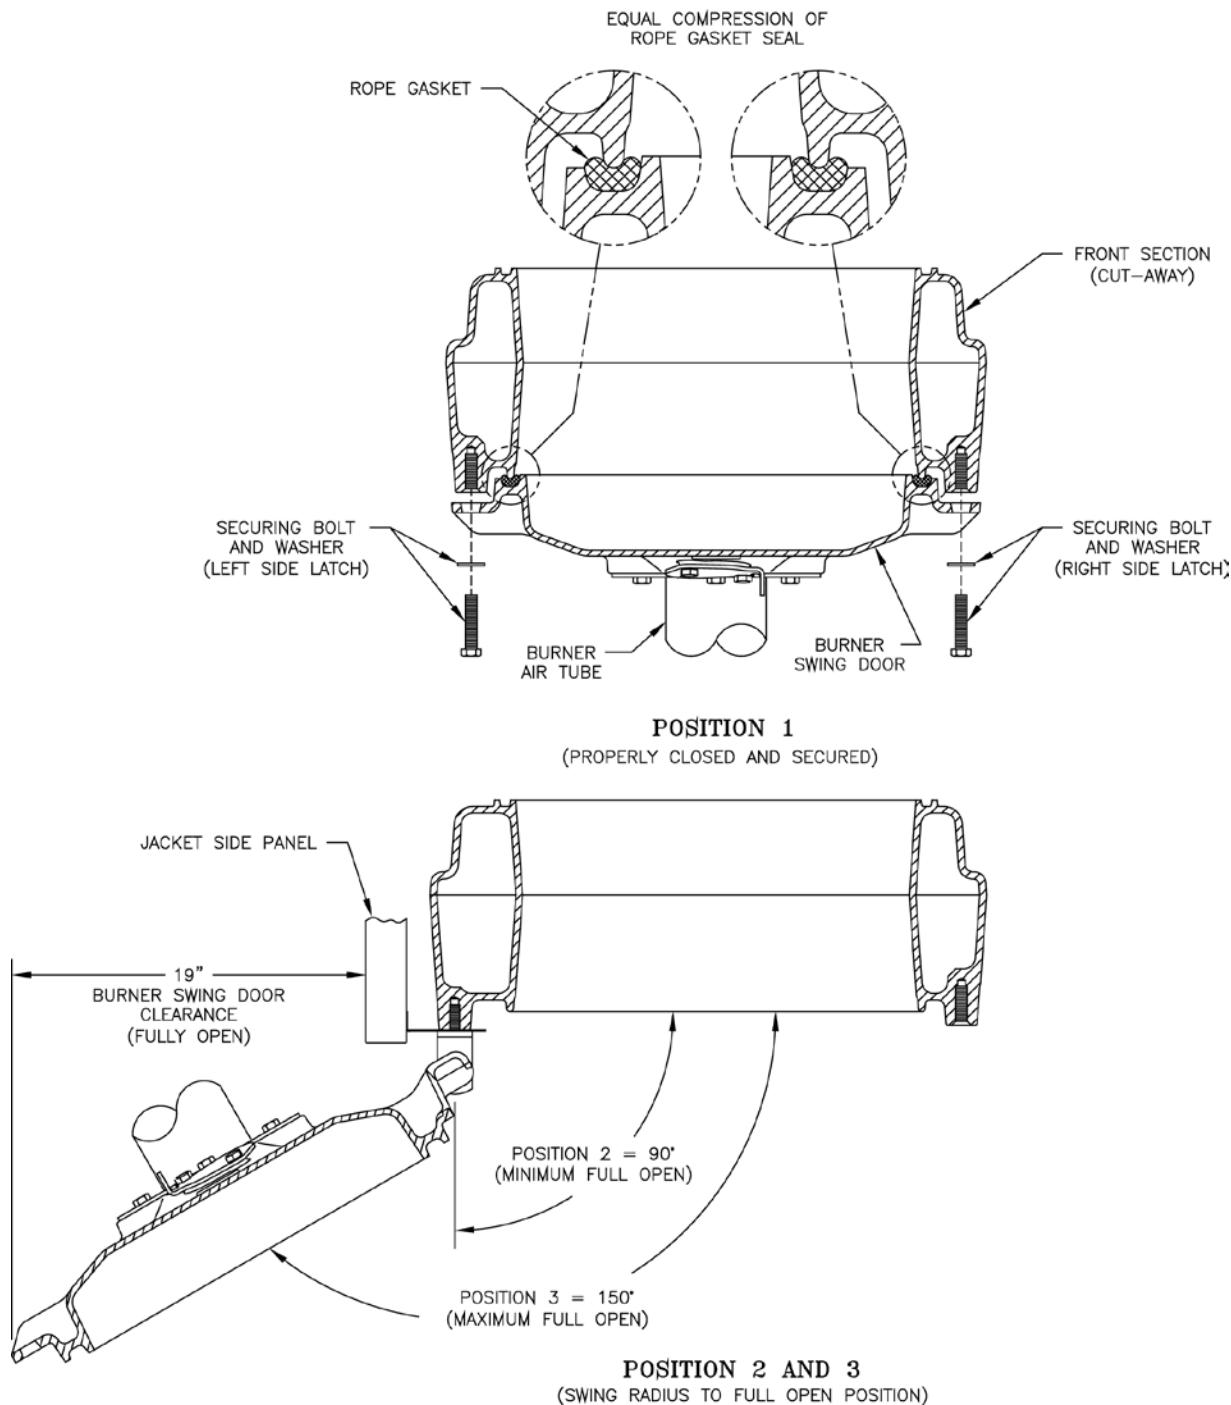

Figure 5B: Top View - Burner Swing Door Mounted to Cast Iron Block Assembly (Jacket Removed for Clarity)
- d. Use a hand or socket wrench to tighten door hardware. **ALWAYS START WITH RIGHT SIDE TAP BOLT FIRST.** Use an alternating tightening method from right side tap bolt to left side tap bolt to tighten door equally, until sealed, without applying excessive torque. **NEVER TIGHTEN LEFT SIDE TAP BOLT FIRST, OR, EITHER PIECE OF HARDWARE 100% WITHOUT USING THE ALTERNATING METHOD DESCRIBED ABOVE.** See Figure 5B.